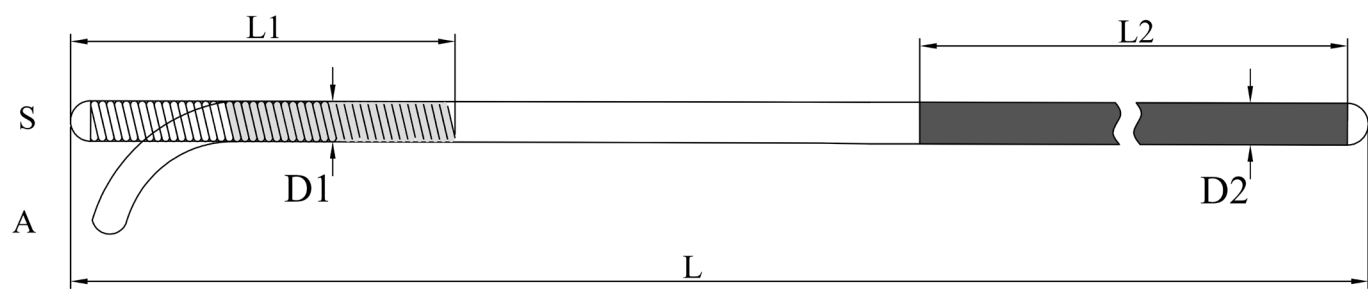
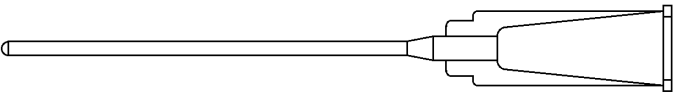
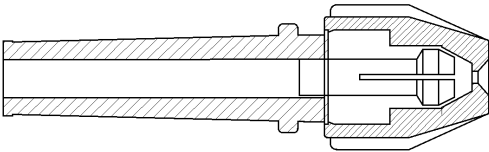
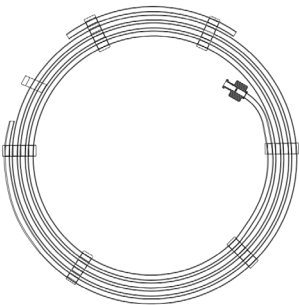

Fig. 1 Schematic diagram of guidewire structure
Fig. 2 Schematic diagram of mandrel
Fig. 3 Schematic diagram of torque device
Fig. 4 Schematic diagram of protective packing
- The product consists of a guidewire (Fig. 1), a mandrel (Fig. 2) and a torque device (Fig. 3). The guidewire comprises core wire and coil, The core wire is made of nickel-titanium alloy and stainless steel, while the coil is made of platinum-nickel alloy and stainless steel. The distal surface of the guidewire is coated with a hydrophilic polyvinylpyrrolidone (PVP) coating, while the proximal surface is coated with a polytetrafluoroethylene (PTFE) coating. Schematic diagrams of the coiled tube (Fig. 4).